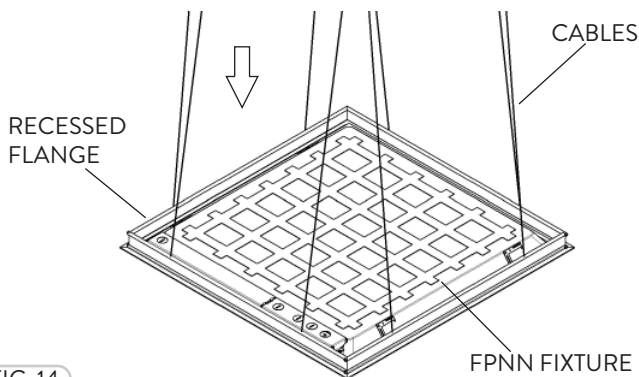

FIG. 14
- 3 After the frame is properly installed into the ceiling, one can then mount the FPNN fixture. Carefully mount the FPNN fixture onto the Recessed Flange and adjust any Aircraft Cables if necessary (Fig 14). Please refer to wiring diagram for wire installation.